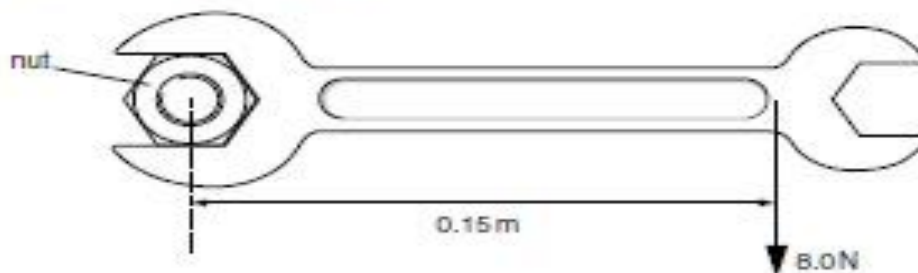

Fig. 1.1
- (b) Fig. 1.1 shows a spanner tightening a nut.